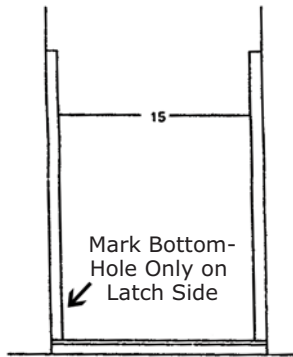

Figure 1
1. Hold wall channels (15) in a plumb position and mark hole locations on the hinge side and bottom hole only on the latch side (See Figure 1). Drill holes in wall (using 3/16" carbide drill for tile walls). Insert wall anchors (16) into drilled holes.